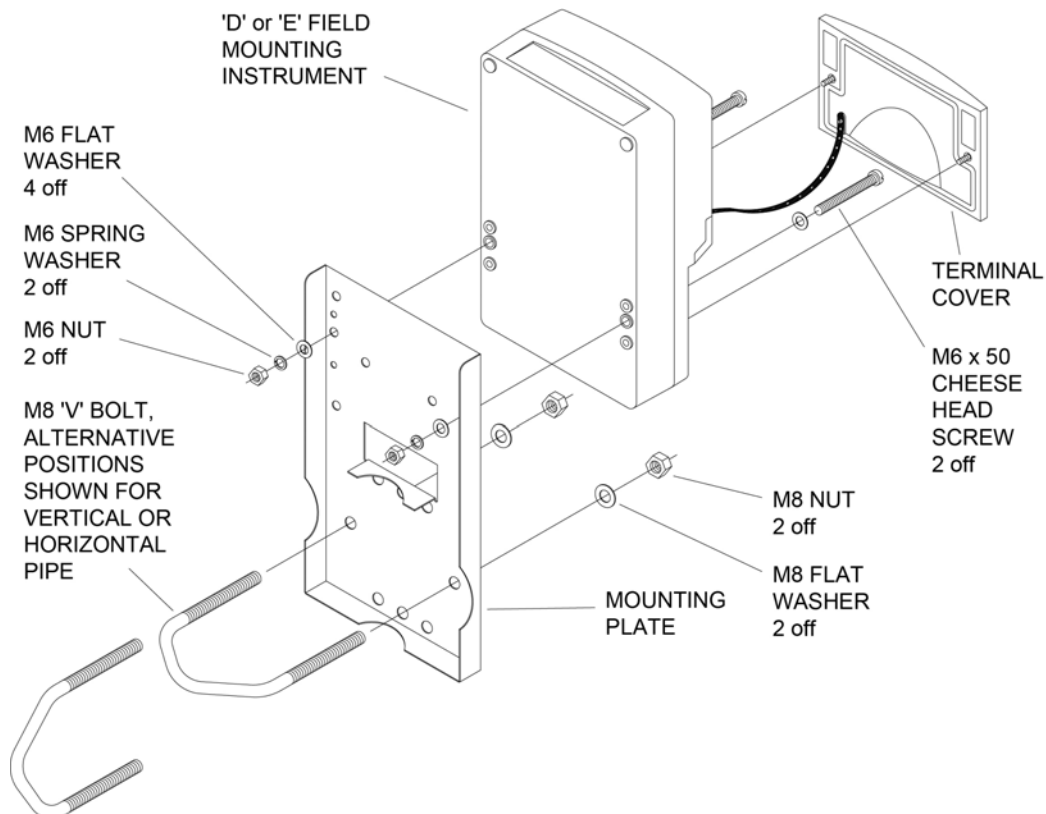
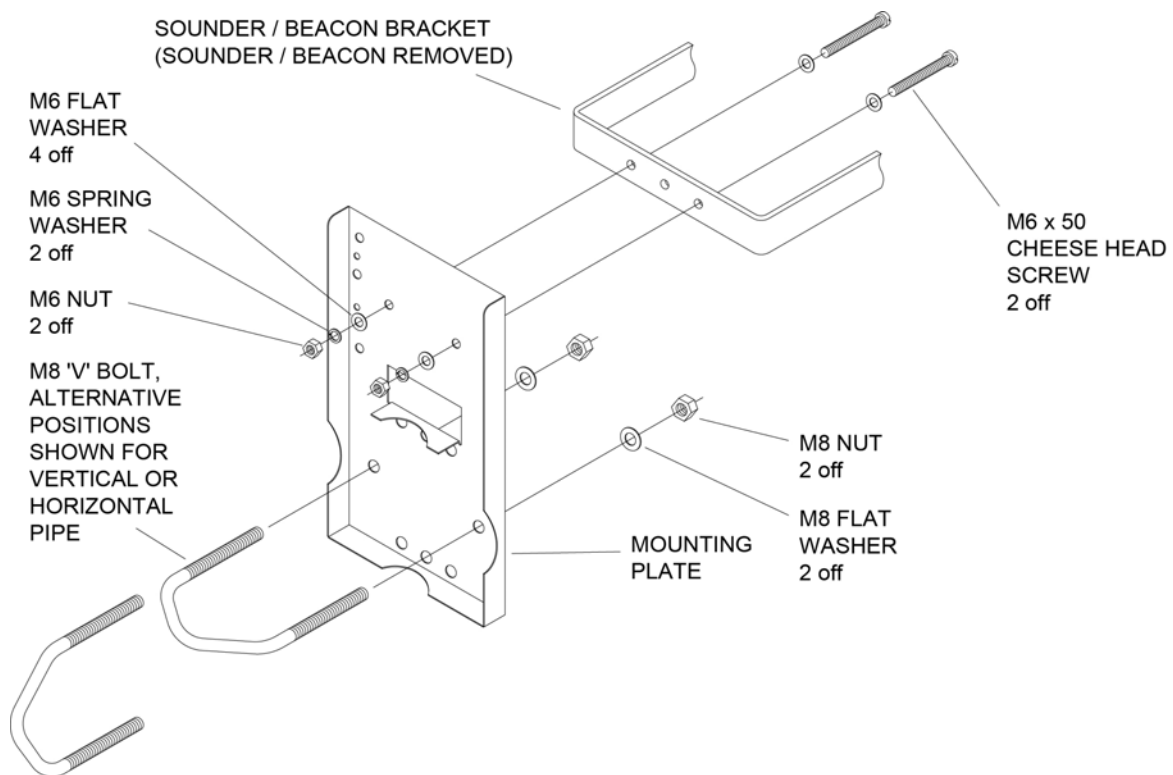

Fig 1 Assembly of a 'D' or 'E' instrument
Fig 2 Assembly of a flame proof 'BEx' Sounder or Beacon
2. Fix the instrument to the mounting plate using two M6 screws for a 'D' and 'E' instrument as shown in Fig 1, or two M6 screws for a 'BEx' Sounder or Beacon as shown in Fig 2.